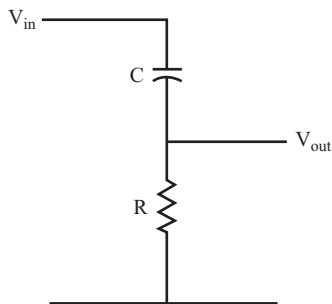

FIGURE 6.3
- 6** If you connect a capacitor and resistor in series (as shown in Figure 6.3), the circuit functions as a voltage divider.